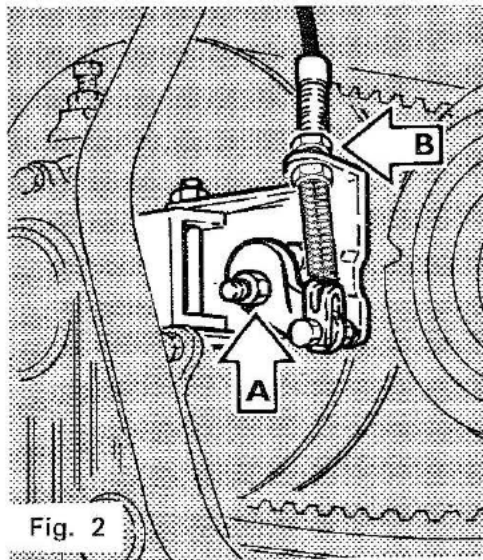

Fig. 2
Turn nut Fig. 2 (A) so that brake control on handlebar applies brake after moving through half its travel.
Shorten brake cable to suit by turning cable adjuster Fig. 2 (B).